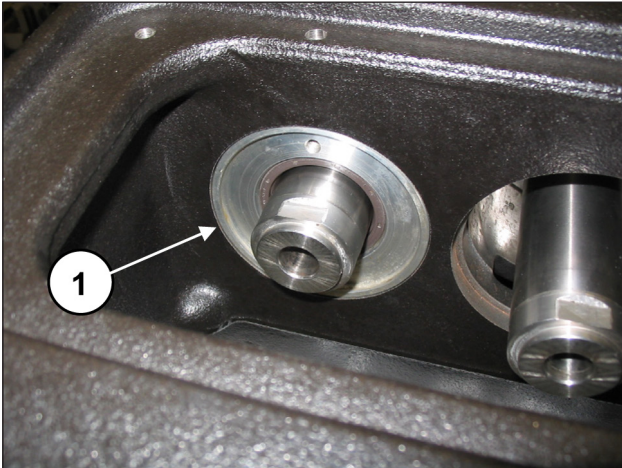
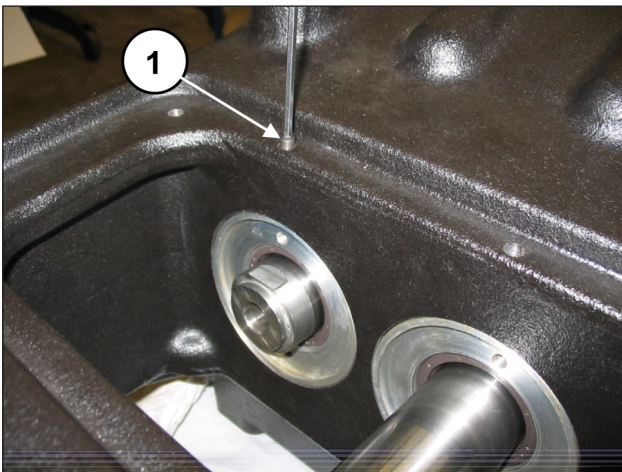

Fig. 97
Fig. 98
Make sure that the cover completely enters its seat (pos. ①, Fig. 97) being careful not to damage the lip of the radial seal ring. Screw in the oil seal covers using 2 x M6x30 grub screws (pos. ①, Fig. 98).